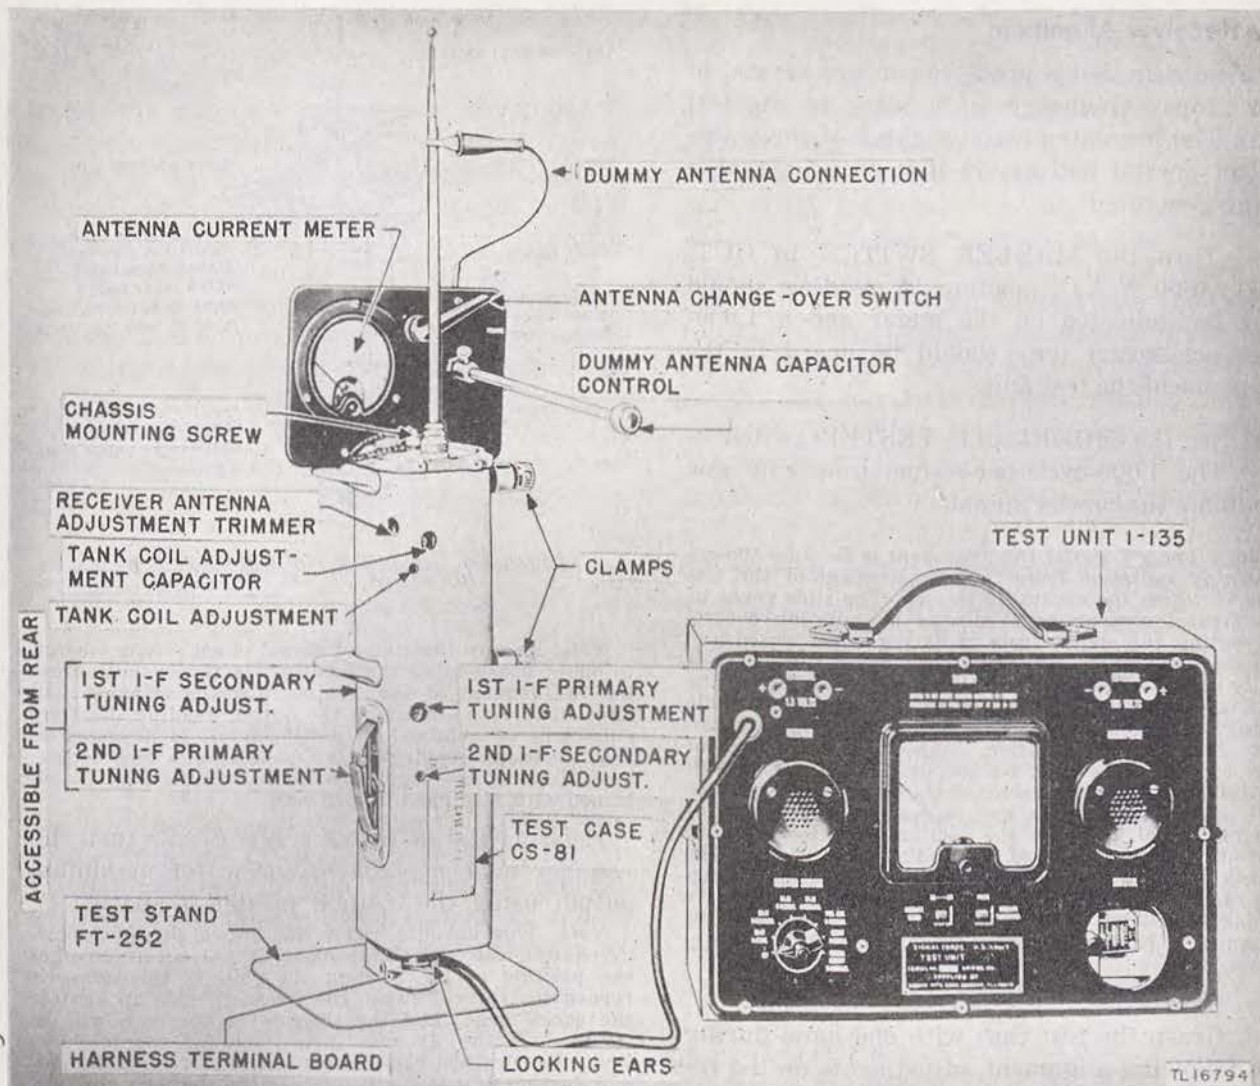

Figure 33. Test Equipment IE-17-(*). Set-up with Radio Set SCR-536-F.
a. Place the chassis into Test Case CS-81-(*) housing. (In Radio Set SCR-536-F the changed location of the receiver tank adjustment, and the change in i-f transformers require that new holes be drilled in Test Case CS-81-(*). (See figs. 33, 34, and 35.) The chassis must be inserted into the test case through the bottom as is done when inserting the chassis into its own housing. Take care that the chassis fits between the guides provided for it in the case. It should not be necessary to force the chassis. If force is necessary, withdraw the chassis and check to see that no parts are catching on the test case or that the chassis has not jumped the guides. Slip the top cover over the antenna rod and fasten the chassis to it with the knurled mounting screw. Remove the plate current meter jumper from the terminal board at the bottom end of the chassis.